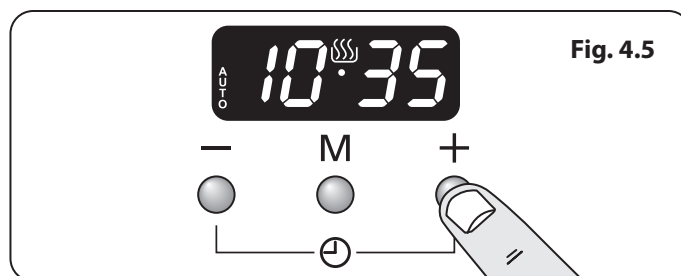

Fig. 4.5
2. Select the 'stop time' using the [+] or [-] buttons. The display will show the current time along with the 'AUTO' and Cooking [🔥] symbols (Fig. 4.5).